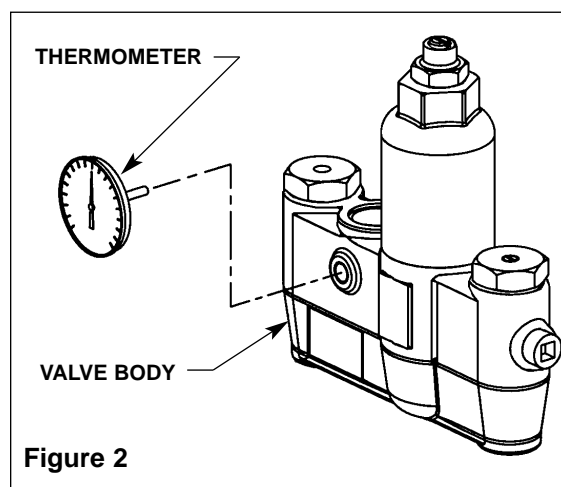

Figure 2
3. Screw the thermometer into the hole in the valve body (see Figure 2). The thermometer provides a readout of the outlet water temperature.